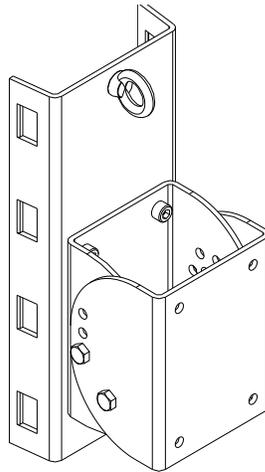
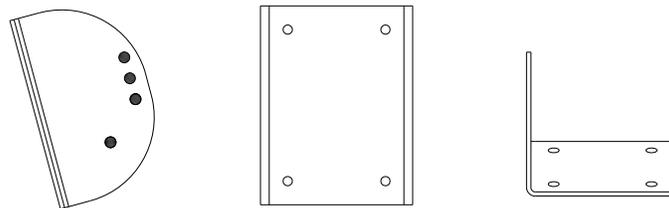

Figure 1
Figure 2
Figure 1 represents the isometric and top views of the pole bracket, including the loudspeaker bracket section. The loudspeaker bracket is shown separately in Figure 2.
1. Mount the pole mount section (see Figure 1) of the bracket to the pole at the desired height on the pole. The loudspeaker bracket shown in Figure 2 should be removed prior to hanging the pole mount section. The bracket is mounted to the pole using BAND-IT stainless steel bands. **DO NOT SUBSTITUTE** bands of other material or other widths! There are **FOUR (4)** locations on the pole bracket for bands. **ALL FOUR LOCATIONS MUST BE USED.** Figure 4 illustrates the locations for the stainless steel band clamps.